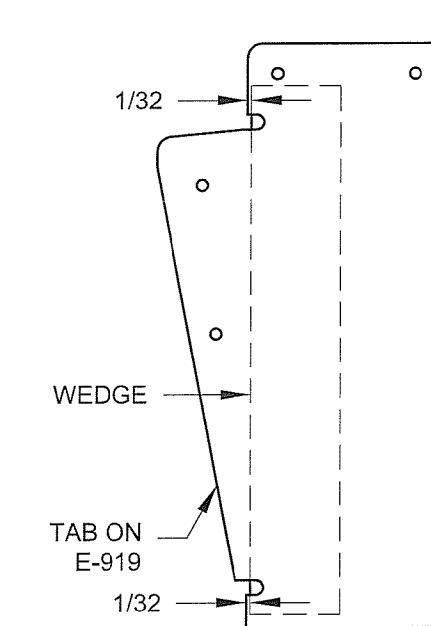

**FIGURE 3: COMPLETING THE TRAILING EDGE BEND**
Step 3: Mask the inside surface of the E-919 Trim Tab Skin around the locations for the trim tab ribs. The rib locations can be found on Page 9-17, Figure 3. Scuff the skin in the location of the ribs with 150 grit aluminum oxide sandpaper, clean the scuffed area with acetone until all sanding residue is removed, then remove the masking.
Step 4: Complete the trailing edge bend on the E-919 Trim Tab Skin using the home-made brake shown in Section 5, Figures 5-5 & 5-7. Cleco the E-920 Trim Tab Spar to the skin as shown in Figure 3, then, using one of the trim tab clamp blocks made in Step 1, check that the entire length of the skin is bent fully and uniformly with no ballooning or puckering.